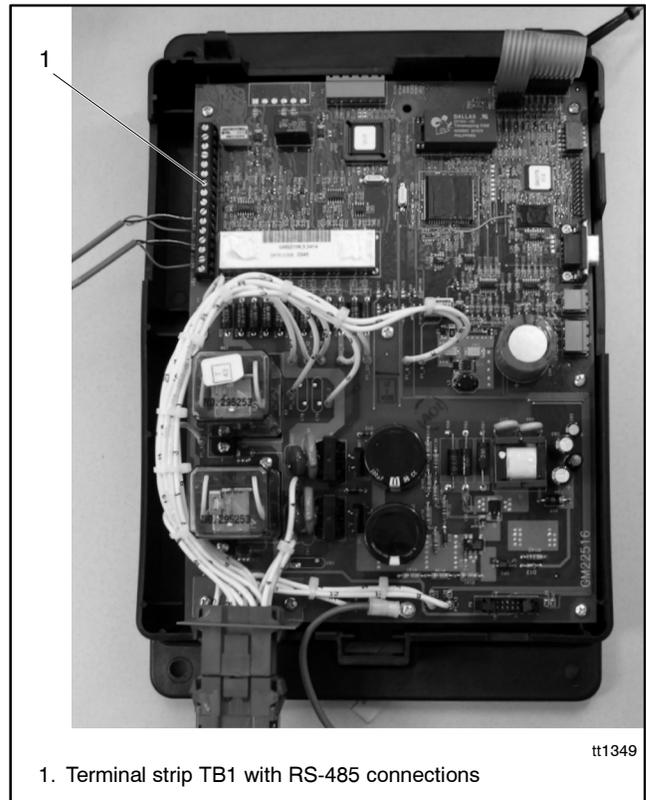

Figure 1 ATS Controller (cover removed)
- 2.3 Remove the controller cover to access terminal strip TB1. See Figure 1.